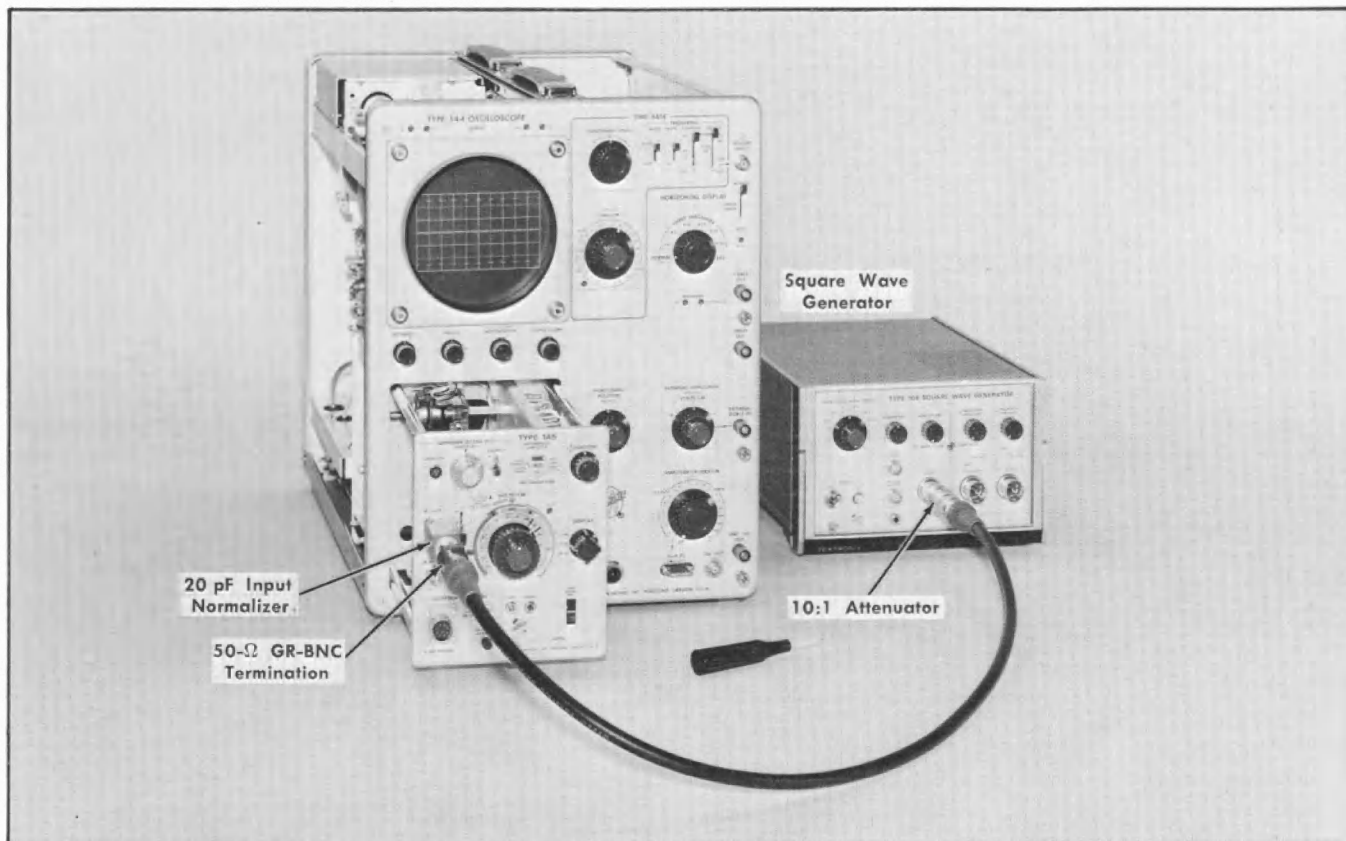
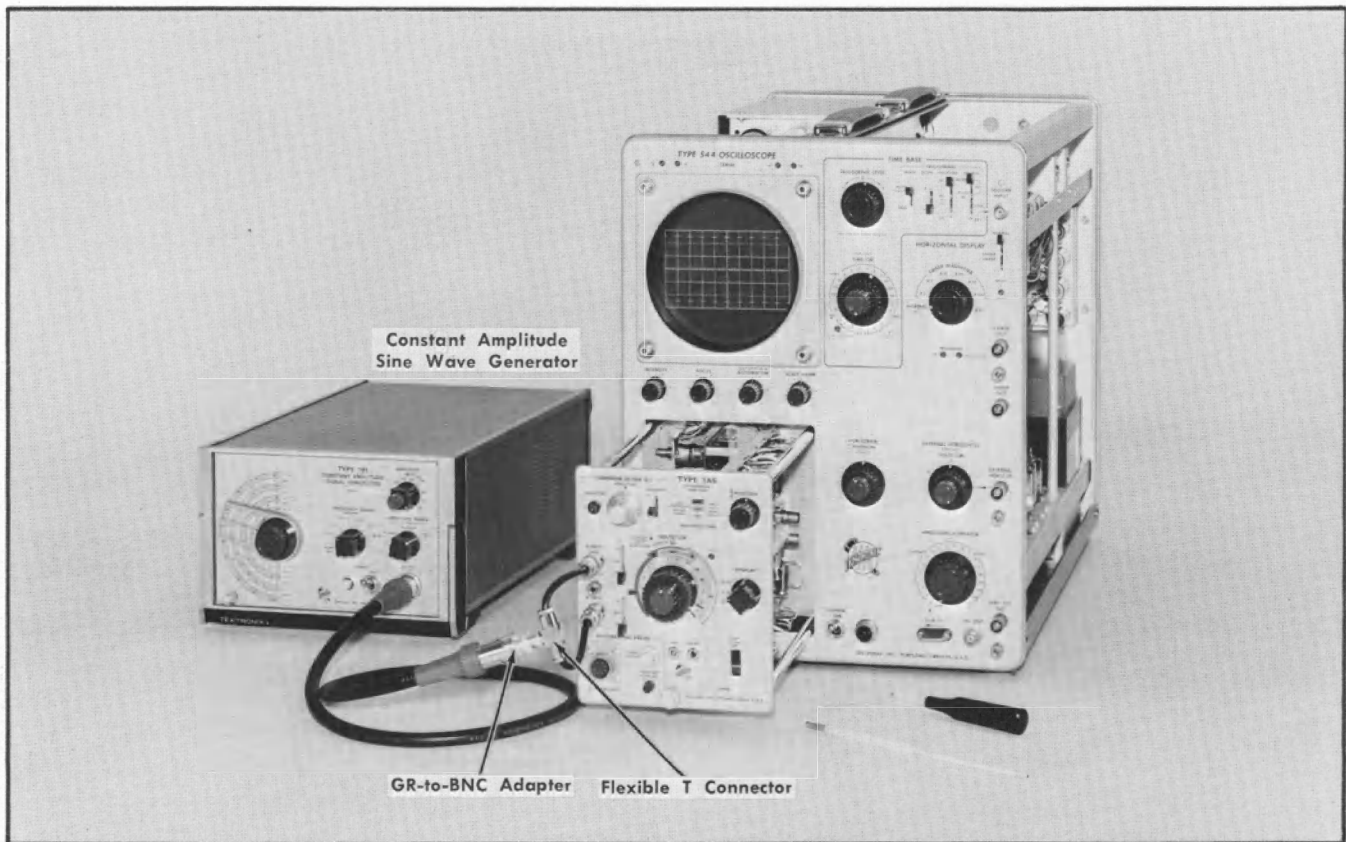
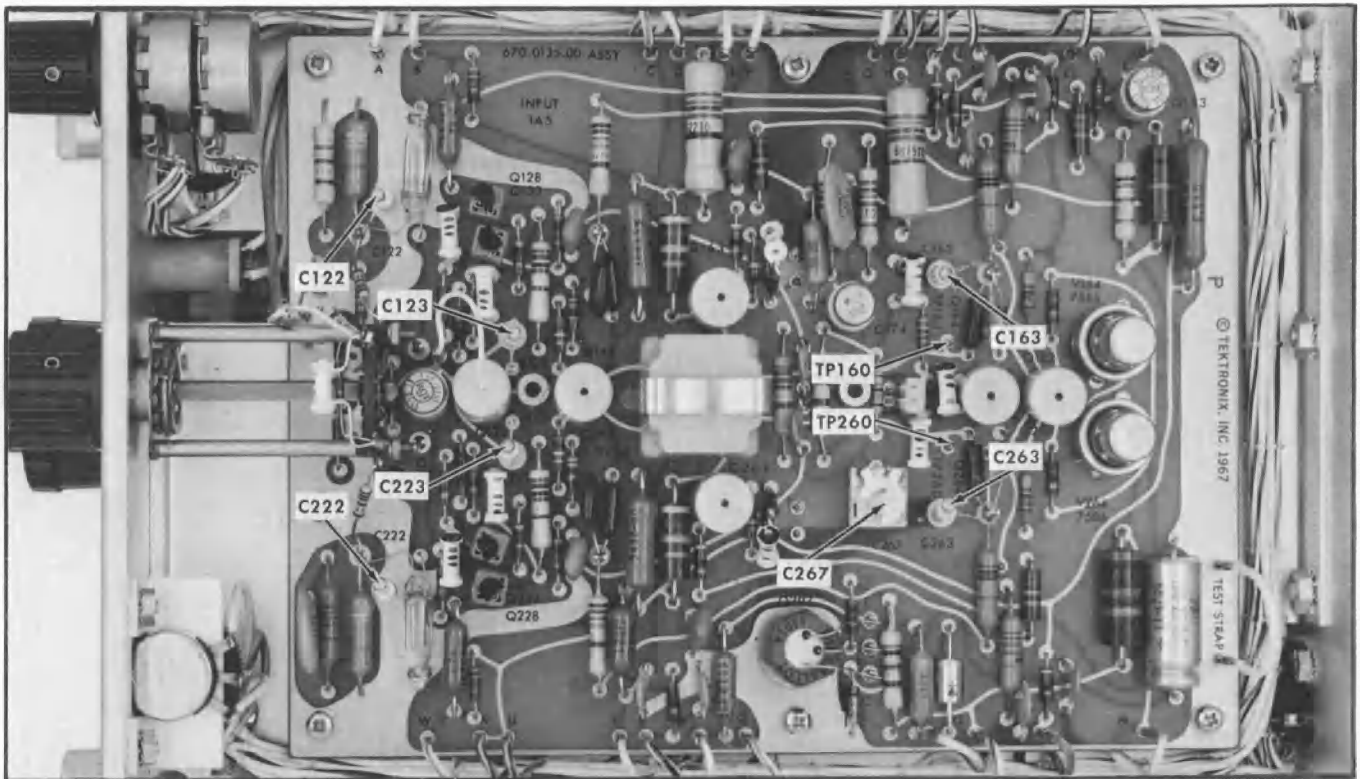

Fig. 6-15. Equipment setup for steps 14 and 16.
Fig. 6-17. Equipment setup for step 15.
Fig. 6-18. Adjustment locations for step 15.
14. Adjust ×1 Input Capacitance (C108, C208) ①
a. Equipment setup is shown in Fig. 6-15. Location of adjustments is given in Fig. 6-16 (A). Typical waveforms are shown in Fig. 6-16 (B), (C), (D) and (E).
15. Adjust $\times 1$ High Frequency Common-Mode Rejection (C267, C122, C222, C123, C223, C163, C263) ①
a. Equipment setup is shown in Fig. 6-17. Locations of adjustments and test points are shown in Fig. 6-18.
b. Using the test strap, (removed from its Type 1A5 storage location during the Preliminary Procedure), connect TP 160 to TP 260. See Fig. 6-18 for test point locations.
c. Connect the two symmetrical ends of a flexible T connector to the A and B INPUTS of the Type 1A5. Connect the center of the T connector to a GR to BNC adapter (item 12). Connect the Type 191 Constant Amplitude Signal Generator (item 4) to the GR adapter, using its 5 ns GR cable.
e. Set the VOLTS/CM switch to 1 mV. Set the POSITION control to midrange and adjust R170 (DC BAL, Fig. 6-18) as necessary to position trace at the center of the graticule.
g. ADJUST—C267 (Fig. 6-18) for minimum display amplitude (optimum common-mode rejection).
- j. Check that the POSITION control and STEP ATTEN BAL control are at midrange and adjust R170 (Fig. 6-18) to set the trace to the center of the graticule.
- m. ADJUST—C122 or C222 and C123 or C223 (Fig. 6-18) for minimum display amplitude. (1 cm or less vertical display amplitude for 10,000:1 or greater common-mode rejection ratio.)
- p. ADJUST—Either C163 or C263 (Fig. 6-18) for minimum display amplitude. 1 cm or less vertical display amplitude for 1000:1 or greater common-mode rejection.
16. Adjust Attenuator Input Capacitance ①
a. Equipment setup is shown in Fig. 6-15 except as follows: